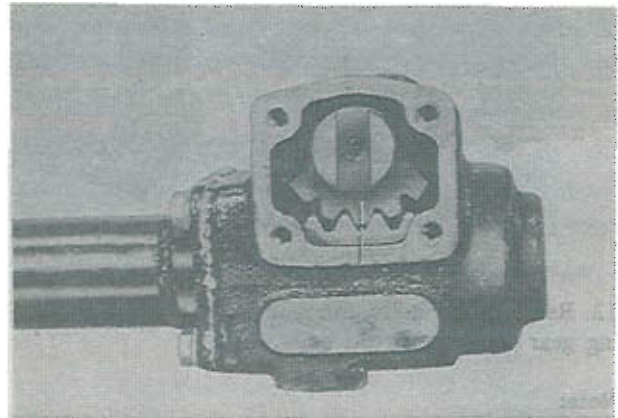

Fig. 10-10 Position of sector gear and worm gear
5. Insert the sector shaft into the gear housing, being careful not to damage the oil seal, and ensuring that the center of the sector gear is in alignment with the center of the worm gear as shown in Fig. 10-10.